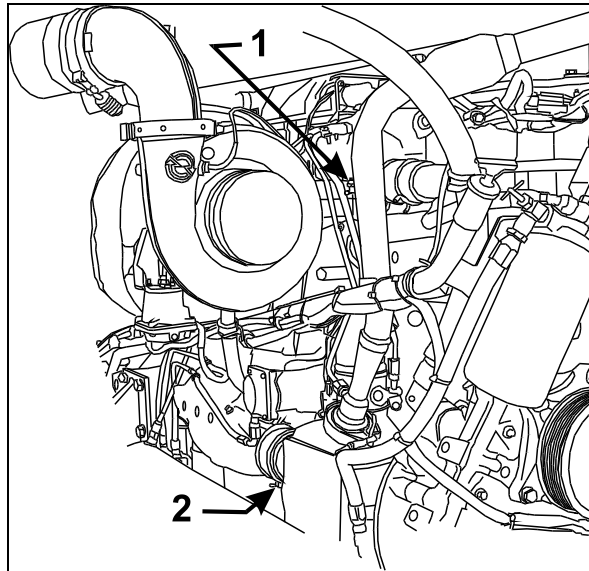

FIGURE 4: ENGINE COOLANT DRAIN COCKS
- Open drain cock at bottom of thermostat housing to drain the coolant trapped above the thermostats (1, Fig. 4).
- Open engine drain cock (2, Fig. 4).